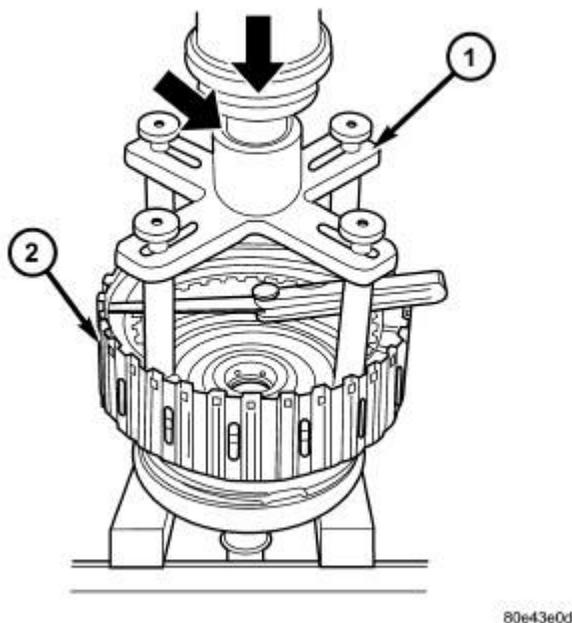

Fig. 145: Measuring K2 Clutch Clearance
8. Measure K2 clutch clearance by mounting Pressing Tool 8901A (1) on outer multiple disc. Refer to **Fig. 145**.